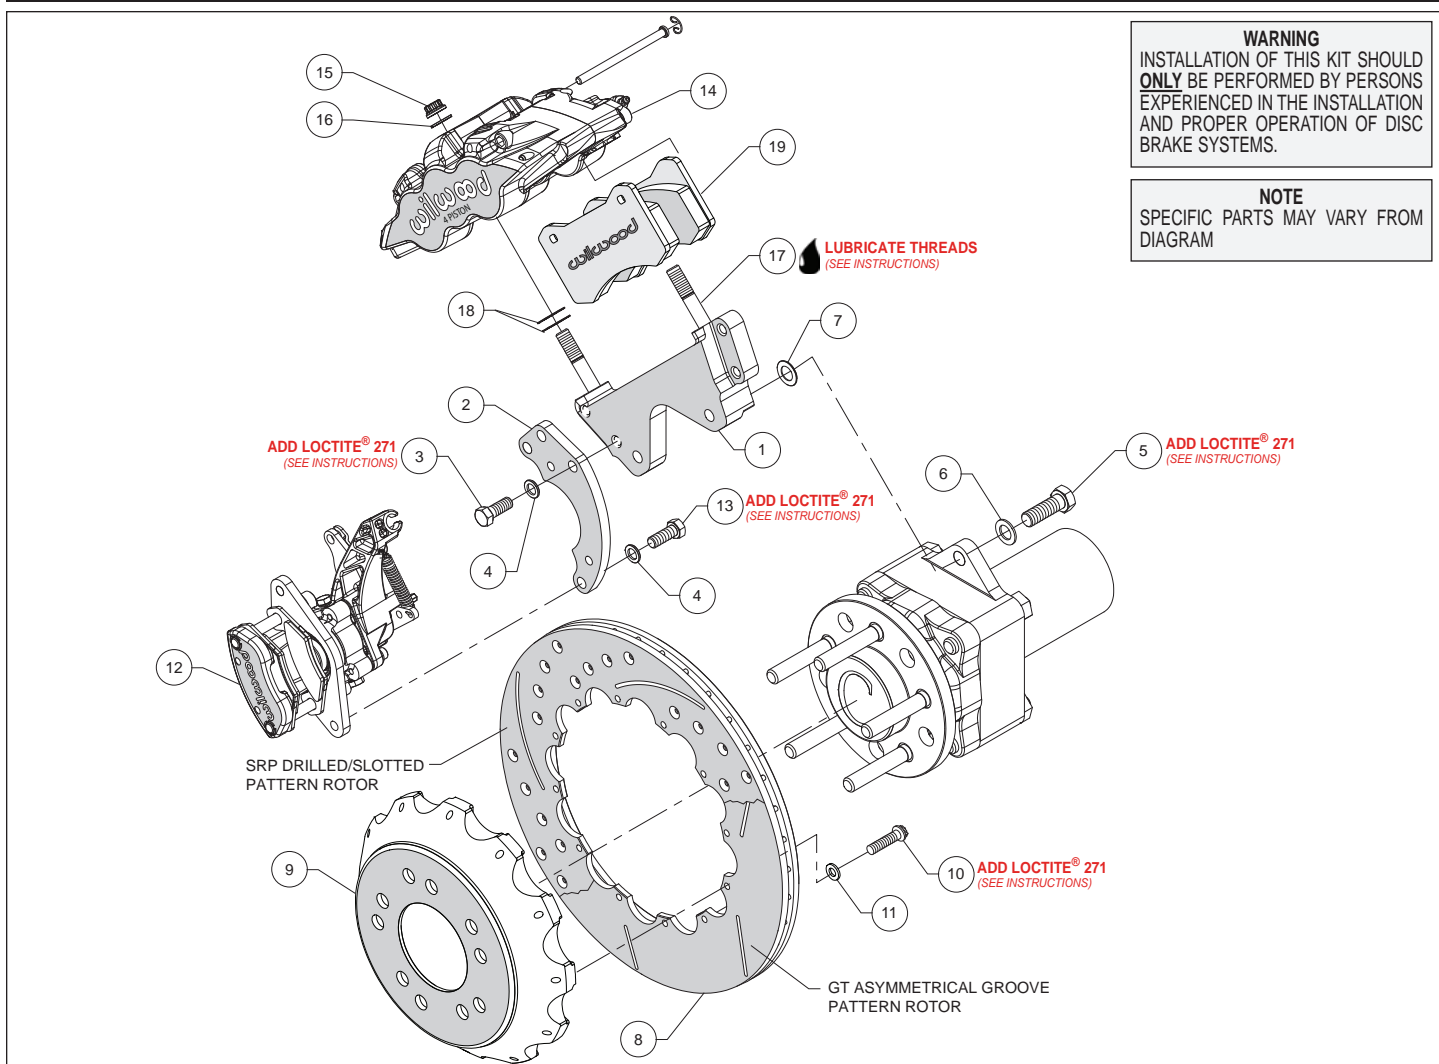
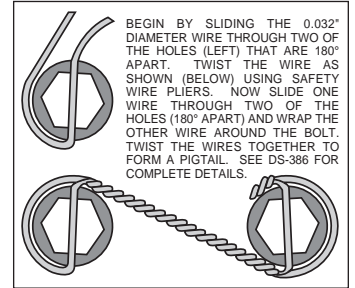

Figure 1. Typical Installation Configuration
Figure 3. Safety Wire Diagram
Assembly Instructions (numbers in parenthesis refer to the parts list and Figure 1 on the preceding pages):
- Attach the MC4 flat caliper bracket (2) to the radial mount caliper bracket (1) using bolts (3) and washers (4) as shown in Figure 1 and Photo 1. Apply red *Loctite*[®] 271 to the bolt threads and torque to 35 ft-lbs. **NOTE:** *The MC4 Bracket may be mounted on either end of the radial mount bracket.*
- The caliper mount bracket assembly (1/2) should initially be installed with clean, dry threads on the mounting bolts. Orient the bracket assembly as shown in Figure 1, and Photo 2, and install using bolts (5) and washers (6). Initially place one .032" thick shim (7) on each bolt between the bracket and axle hub, Figure 1. Temporarily tighten the mounting bolts. **NOTE:** *The bracket must fit squarely against the mount bosses on the axle hub.* Inspect for interference from casting irregularities, machining ridges, burrs, etc. Later, after the caliper alignment has been checked, the mount bolts will be secured using red *Loctite*[®] 271.
- Orient the rotor (8) and the hat (9) as shown in Figure 1 and Photo 3. Attach rotor to hat using bolts (10) and washers (11). Using an alternating sequence, apply red *Loctite*[®] 271 to the threads, and torque to 155 **in-lbs**. For an added measure of security, the bolts may be safety wired using standard 0.032 inch diameter stainless steel safety wire as shown in Figure 3. Please refer to Wilwood's data sheet DS-386 (available at www.wilwood.com/Pdf/DataSheets/ds386.pdf) for complete safety wire installation instructions.
- Lubricate the caliper mounting studs (17) with lightweight oil. Initially place two .030" thick shims (18) on each stud as shown in Figure 1 and Photo 5. Mount the caliper (14) onto the bracket (1) using lock nuts (15) and washers (16), Figure 1. Temporarily tighten the lock nuts and view the rotor through the top opening of the caliper. The rotor should be centered in the caliper, Photo 6. If not, adjust by adding or subtracting shims (7) between the bracket (1) and the mounting bosses. Always use the same amount of shims on each of the two mounting bolts. Once the caliper alignment is correct, remove the bracket mounting bolts (5) one at a time, apply red *Loctite*[®] 271 to the threads, and torque to 77 ft-lb.
- Remove the two pad retaining pins from the caliper (14) by carefully popping out the pin retaining clips and sliding out the pins. Insert the brake pads (19) into the caliper from the bottom, Figure 1 and Photo 7. With the friction material facing the rotor, secure the brake pads in place with the pad retaining pins and clips, Photo 8. Reinstall the caliper onto the caliper mounting bracket and temporarily tighten the lock nuts. Check that the top of the brake pad is flush with the outside diameter of the rotor,
- Mount the parking brake caliper (12) onto the lower section of the caliper mounting bracket assembly (1/2) using bolts (13) and washers (4), as shown in Figure 1 and Photo 10. Apply red *Loctite*® 271 to bolt threads, and torque to 30 ft-lb.